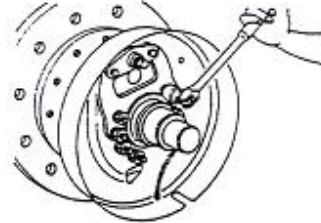

Figure 2-16
6) Remove the E-shaped retaining ring used for fixing the brake cable on the brake backing plate. Then remove the mounting bolt on the brake backing plate and dismount the brake backing plate from the drive axle. See figure 2-16